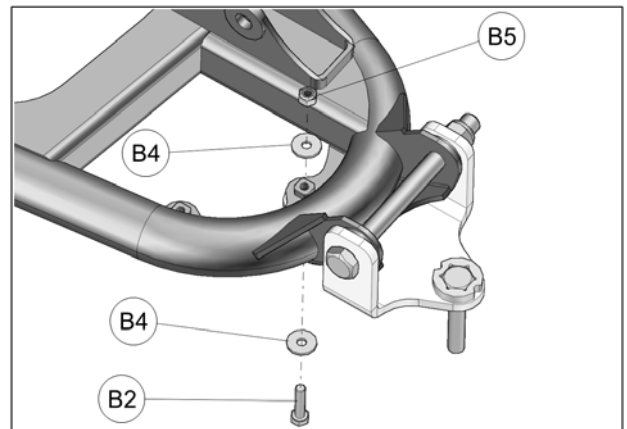

Fig. 9
8. Secure the back end of the anchor bracket to the suspension arm with an M6 bolt (**B2**) through the bottom with a washer (**B4**). Install an M6 nut (**B5**) with a washer (**B4**) on the bolt. Tighten, first, the M6 bolt to 10 N•m [7.5 lb•ft] of torque and then the M12 bolt to 88 N•m [65 lb•ft]. See Fig. 9